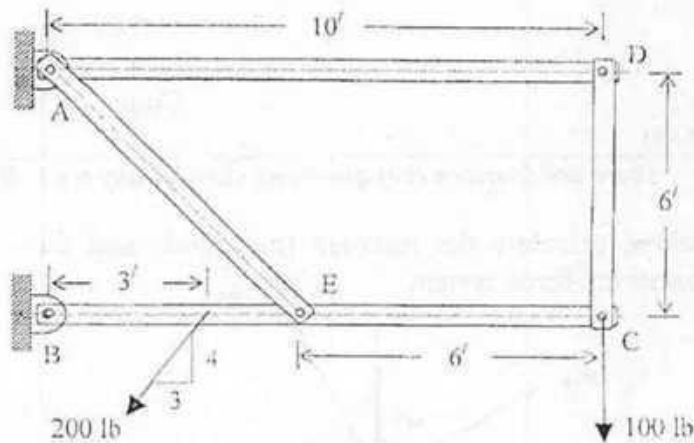

Fig :4
4. In the fig: 4 below determine support reactions at A & B and all other internal pins. Identify two-force members and determine the forces in those members. Assume all the members of the framework are weightless.